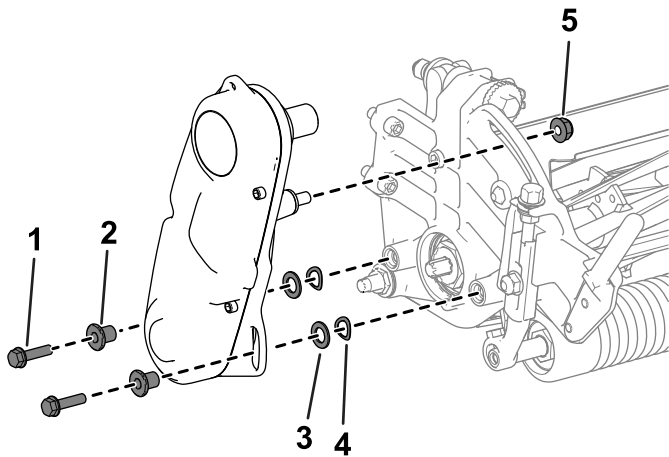

Figure 12
1. Remove the hardware that secures the reel-drive assembly to the side plate (Figure 12).
2. Remove the reel-drive assembly, flat washers, spring washers, and spacers from the side plate (Figure 12).